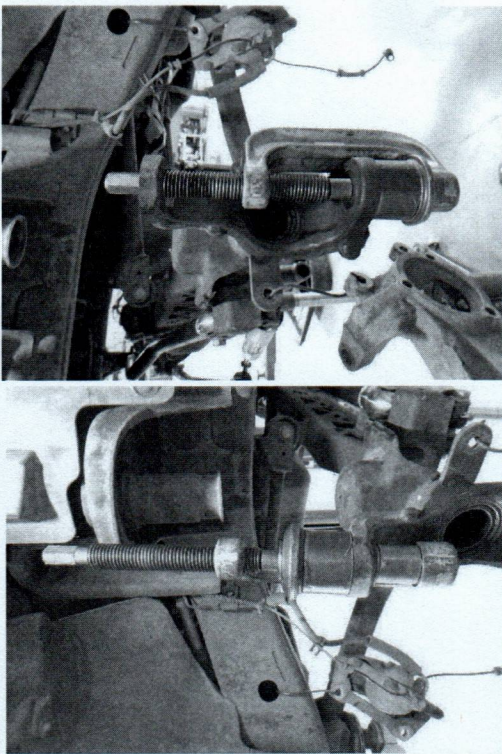

Figure 8. Pressing Out Upper Ball Joint
9. Remove dust boots from all the ball joints and wipe up all old grease. Press out the upper ball joints first, 'up' out of the housing. Then press the lowers out 'down' out of the housing. See Figures 8 and 9.